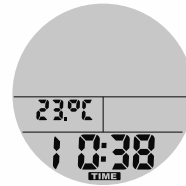

Figure 6
Step 3: When the exercise has stopped, and all buttons have not been operated for over 4 minutes, the monitor display shows the clock time and room temperature, this is the **sleep mode**. At this moment, other functions are off. (figure 6). All previous preset data and training data are kept, and will show up when any buttons are pressed or the exercising starts up again in the sleep mode.